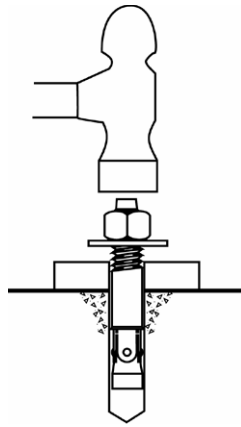

Figure 7
- E. Assemble the washers and nuts onto the anchor bolts. Thread the nuts onto the anchor bolts where the tops of the nuts are just above the top of the bolts, figure 7. Using a hammer, carefully tap the anchor bolts into the concrete until the washer rests against the baseplate. Do not damage the nuts or threads.